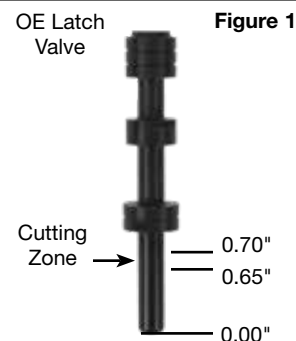

Figure 1
- Measure between 0.65– 0.75" (cutting zone) from the base of the valve stem (**Figure 1**).